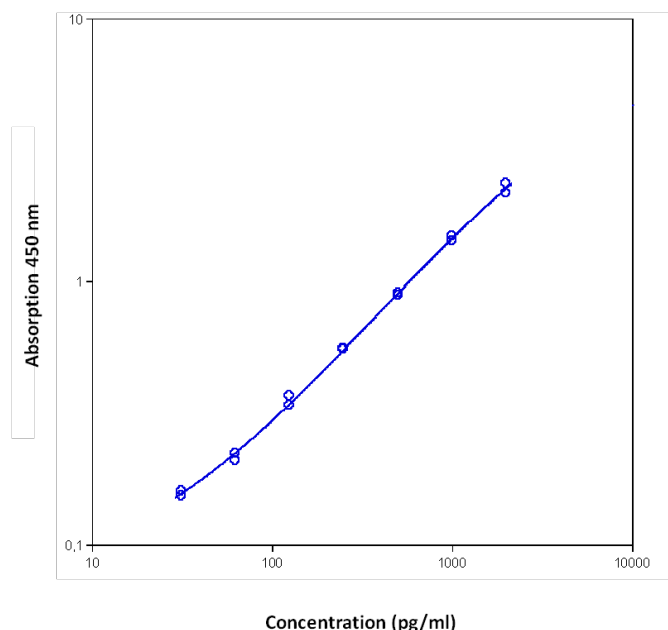

Fig. 8 Representative standard curve for human PDGF-BB ELISA. Human PDGF-BB was diluted in serial 2-fold steps in Assay Buffer (1x).
- A representative standard curve is shown in Figure 8.